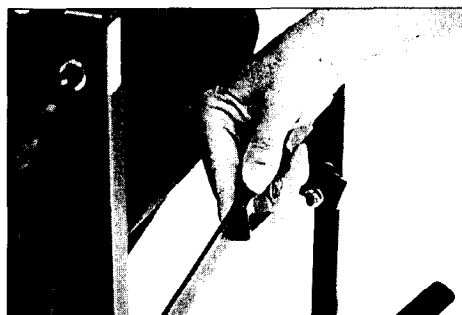

Fig.5
5. For EZ Riders, pull handle up and lock into place. **Fig.5**